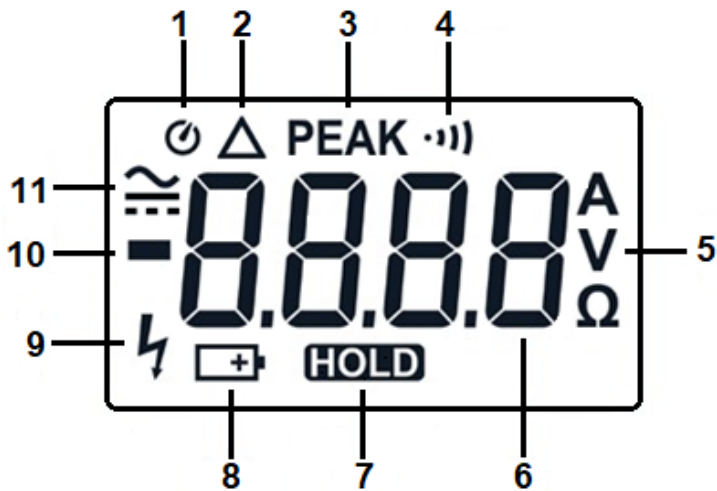

Figure 2
- Start the meter by turning the rotary switch to any setting other than **OFF**. Observe the LCD and ensure all segments are displayed (see Figure 2).